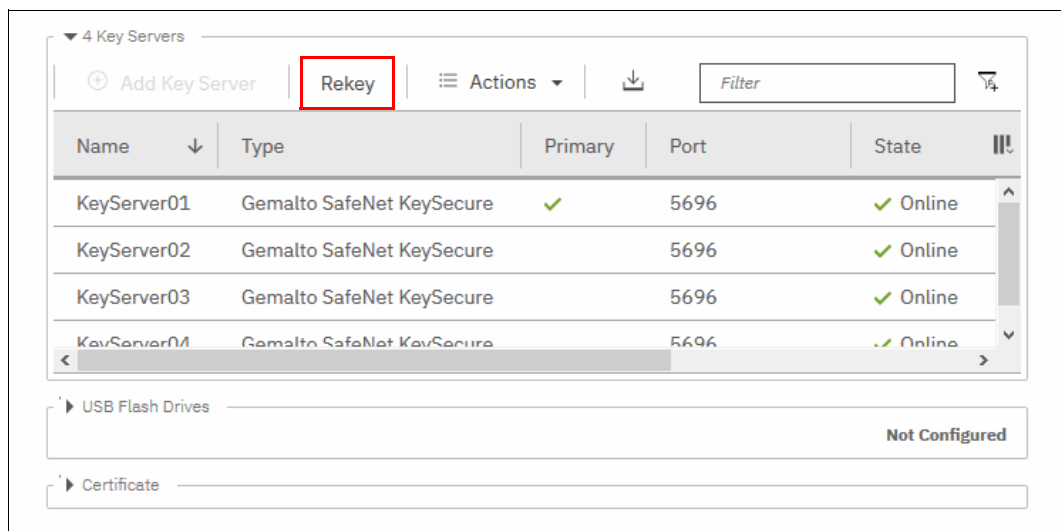

Figure 13-83 Start rekey on SKLM key server
2. Click **Rekey**, as shown in Figure 13-83.